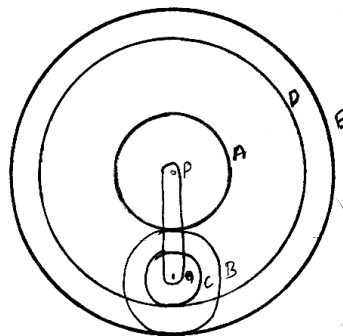

Fig. 4(b)
- b. A compound epicyclic gear train is shown in Fig. 4(b), the gears, A, D and E are free to rotate on the axis P. Compound gear B and C rotate together on the axis Q at the end of arm 'F'. All the gears have equal pitch. Number of external teeth on the gear A, B, C are 18, 45 and 21 respectively. The gears D and E are annular gears. Gear A rotates at 90 rpm, CCW, gear D rotates at 450 rpm C.W. Find the speed and the direction of rotation of arm and gear E. (Tabular Column method).